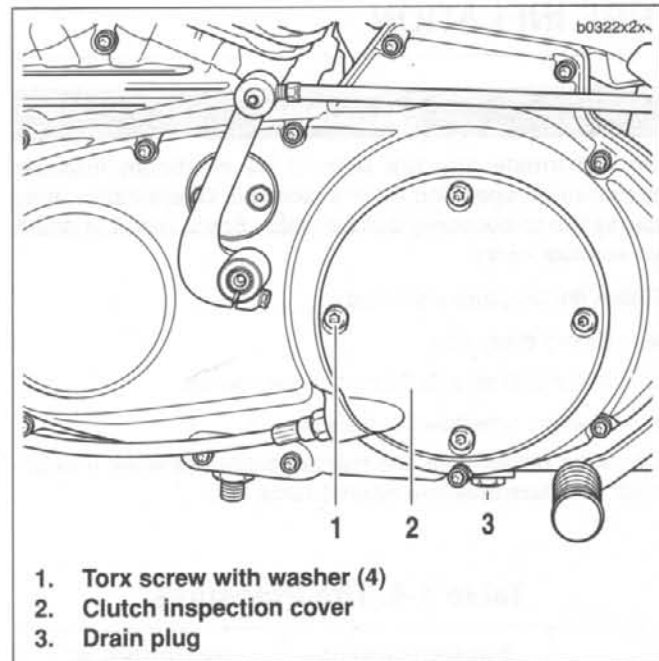

Figure 1-34. Primary Cover
3. See Figure 1-34. Position a suitable container under drain plug (3). Remove plug and drain fluid.
5. Remove four TORX screws with washers (1) from clutch inspection cover (2). Remove clutch inspection cover from primary cover. Do not damage or dislodge Quad ring from primary cover.
7. See Figure 1-34. Install clutch inspection cover (2) using four TORX screws with washers (1). Tighten in a cross-wise pattern to 7-9 ft-lbs (9.5-12.2 Nm).